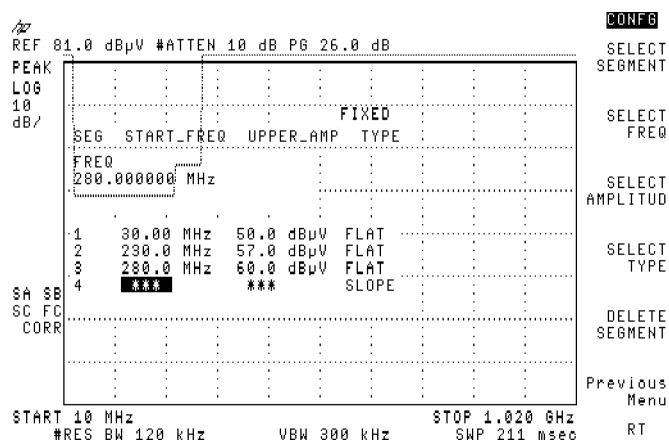

Figure 3-70. Entering the Third Limit-Line Segment
21. Press **SELECT TYPE**, then **FLAT**. See Figure 3-70.